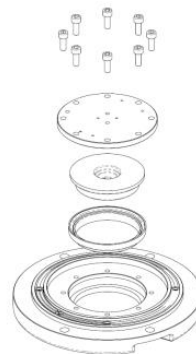

Figure 5-15
- Take out the prism and its gasket sleeve from the upper cover and load the new prism gasket sleeve and prism into the upper cover in succession. (see Figures 5-15).